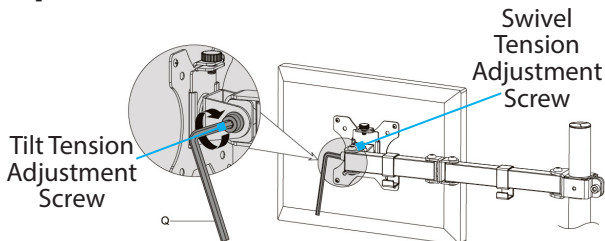

Figure 15
- Loosen the **Tilt Tension Adjustment Screw**, located on the side of the **VESA Mount Attachment Point**, by 1/4 turns until adequately loose, make the desired adjustments to the tilt angle, and tighten the **Tilt Adjustment Screw**, using the **6 mm Hex Key (Q)**. (Figure 15)